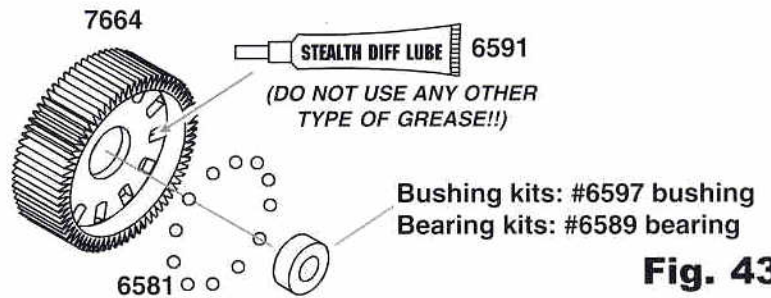

Fig. 43
□ **Fig. 43** (1) From bag A remove the #7664 diff gear and the bag containing the twelve #6581 3/32" carbide dif balls. Trim the flash from the center hole of the gear, if necessary. (2) Add a generous amount of #6591 diff lube to the gear ball holes and push in the twelve diff balls. (3) Insert one #6589 bearing or #6597 bushing into the center hole.